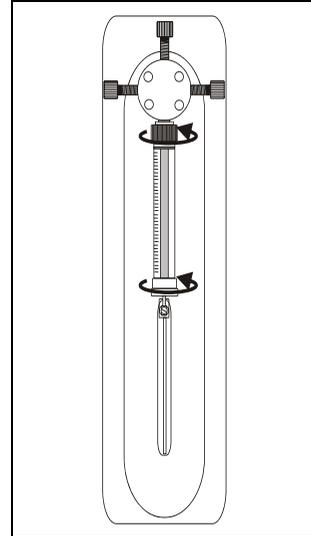

Figure 4-1. Tightening the Syringe
- If the syringe is not cracked and the seal is not damaged, check that the syringe is tightened. To tighten, hold the syringe at the top and bottom fittings and turn it clockwise (as viewed from the top) (see Figure 4-1). Tighten fingertight only; do not overtighten.